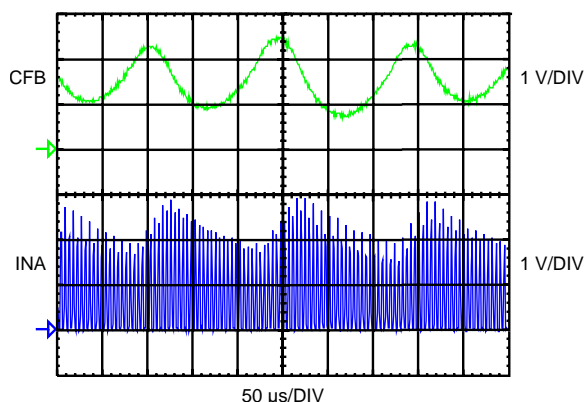
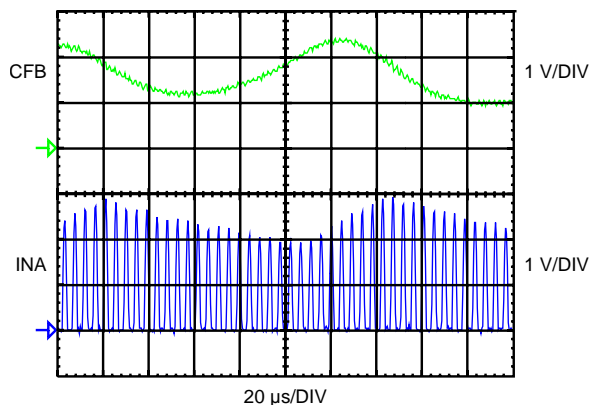

Figure 21. Determining the Value of CF
Figure 22. Determining the Value of CF
4. Step RP_MIN up one step at a time until the amplitude of the signal on the oscilloscope becomes variable as shown in Figure 21 and Figure 22. Increase RP_MIN by two, for example if the amplitude becomes variable at 17, set RP_MIN to 19.
5. Set the time scale of the oscilloscope so that many periods of the signal on the INA terminal can be seen. See Figure 21.
6. Set the CF capacitor value so that the AC portion of the waveform is about 1V_{PP} maximum. Decreasing the capacitor value will make the AC portion of the waveform larger. This signal scales linearly with the reciprocal of the filter capacitance. For example, if a 100pF filter capacitor is used and the signal observed on the CFB terminal has a peak-to-peak value of 200mV, the desired 1V peak-to-peak value is obtained using a $200mV / 1V \times 100pF = 20pF$ filter capacitor. Figure 21 shows the waveforms on CFB and INA and Figure 22 shows the waveforms using a zoomed in horizontal scale. Note that the waveforms on CFB and INA are not a constant amplitude. The waveform on CFB should be adjusted so that the maximum value is 1V_{PP}.